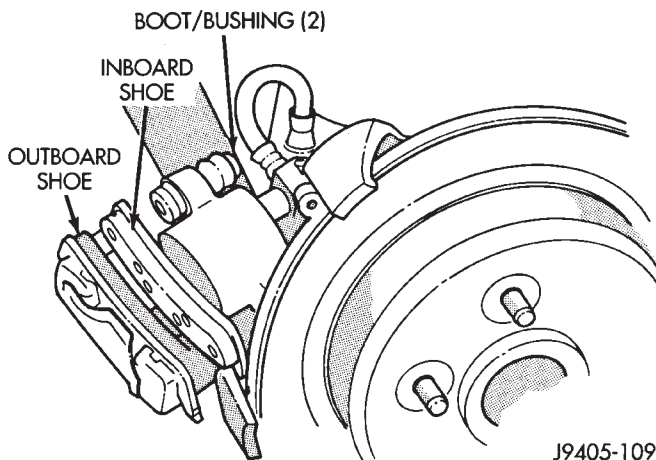

Fig. 39 Rear Caliper
(1) Raise and support vehicle.
(2) Remove rear wheel and tire assemblies.
(3) Press caliper piston back into caliper bore with large Cackling.
(4) Remove caliper mounting bolts.
(5) Rotate caliper rearward and off rotor (Fig. 39). Support caliper with wire attached to nearby suspension component. **Do not allow brake hose to support caliper weight.**
(6) Press one corner of outboard shoe inward then pry shoe upward with suitable tool and rotate shoe out of caliper.
(7) Pry inboard shoe outward until shoe retainers come out of caliper piston. Then remove shoe from caliper.